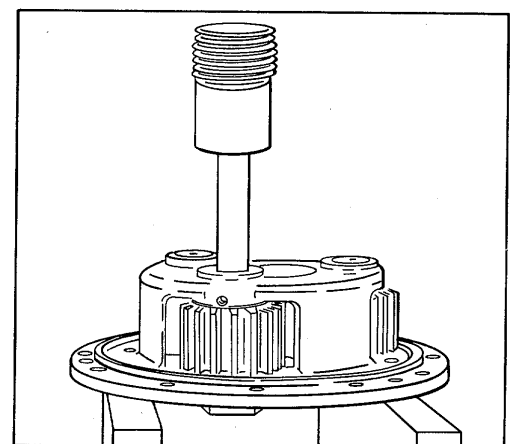

Figure 6.
1. Press out the planet gear pins as shown (refer to Fig. 6).